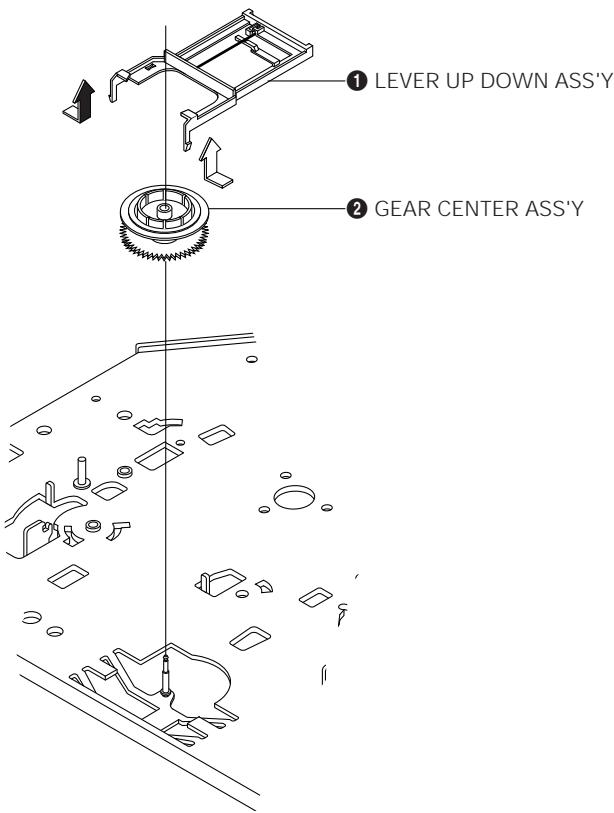

Fig. 1-20 Lever Up Down Ass'y, Gear Center Ass'y Removal
- 1) Remove the 2 hooks in the direction of arrow as shown Fig. 1-20 and lift the Lever Up Down Ass'y **①**.
- 2) Lift the Gear Center Ass'y **②**.